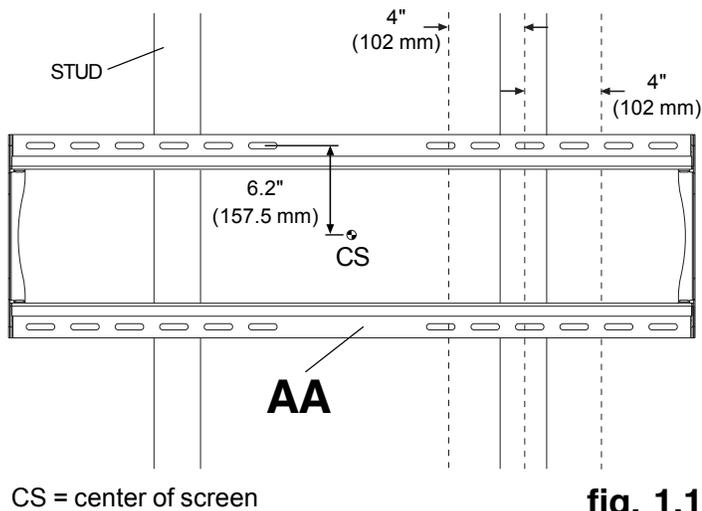

fig. 1.1
- 1** Wall plate (**AA**) can be mounted to two studs that are 16" apart. Use a stud finder to locate the edges of the studs. Use of an edge-to-edge stud finder is highly recommended. Based on their edges, draw a vertical line down each stud's center. Place wall plate on wall as a template. The top mounting slots should be located 6.2" (157.5 mm) above the desired screen center as shown in figure 1.1. Level plate, and mark the center of the four mounting holes. Make sure that the mounting holes are on the stud centerlines. Drill four 5/32" (4 mm) dia. holes 2-1/2" (65 mm) deep. Make sure that the wall plate is level, secure it using four #14 x 2.5" wood screws (**DD**) as shown in figure 1.2.
NOTE: Wall plate may be mounted up to 4" (102 mm) off center as shown in figure 1.1.
- 1** Make sure that wall plate (AA) is level, use it as a template to mark four mounting holes. The top mounting slots should be located 6.2" (157.5 mm) above the desired screen center as shown in figure 1.1 page 5. Drill four 1/4" (6 mm) dia. holes to a minimum depth of 2.5" (64 mm). Insert anchors (EE) in holes flush with wall as shown (right). Place wall plate over anchors and secure with #14 x 2.5" screws (DD). Level, then tighten all fasteners.